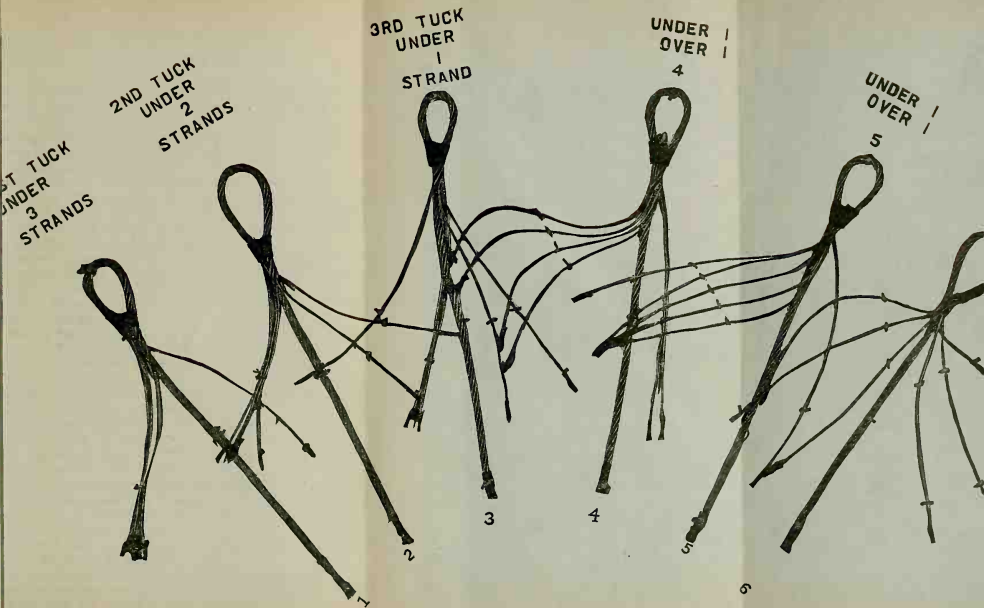

FIG. 47-18—Gun-Factory wire splice in 6 stages.
*Wire splice, Gun-Factory type.*—Figure 47-18 shows a type of wire splicing used in the Naval Gun Factory, Washington Navy Yard, for handling of all guns and ordnance material.
The instructions for preparing 6-strand wire for splicing are as follows: Seize wire with marline about 2 feet from end, to prevent unraveling while splicing. Then whip each end of the 6 strands. Now the wire is ready for splicing. After the size of eye required has been determined, start splicing as follows: Tuck first strand under 3, second strand under 2, third strand under 1. The other 3 strands are tucked under 1, and over 1, as illustrated in Fig. 47-18. Then cut the ends of strands close to the standing part of wire, and serve with marline.